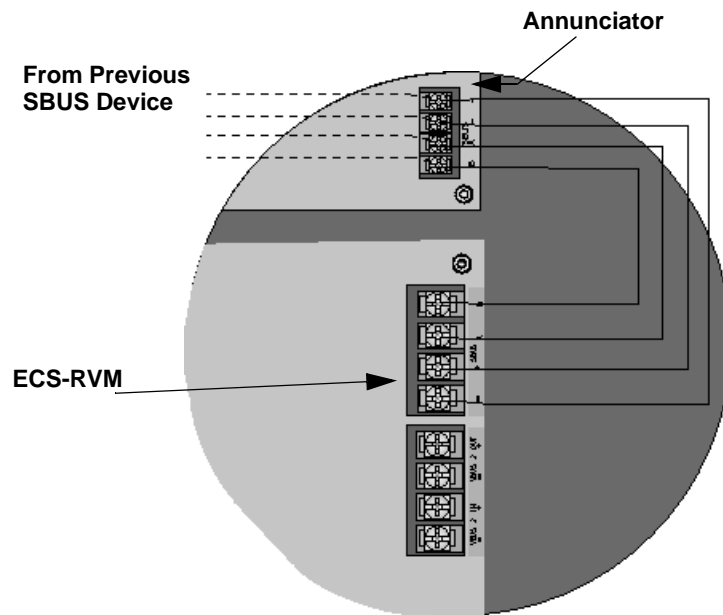

Figure 4-80 SBUS Wiring for ECS-RVM
3. Connect the SBUS to the annunciator and ECS-RVM. See Figure 4-80.